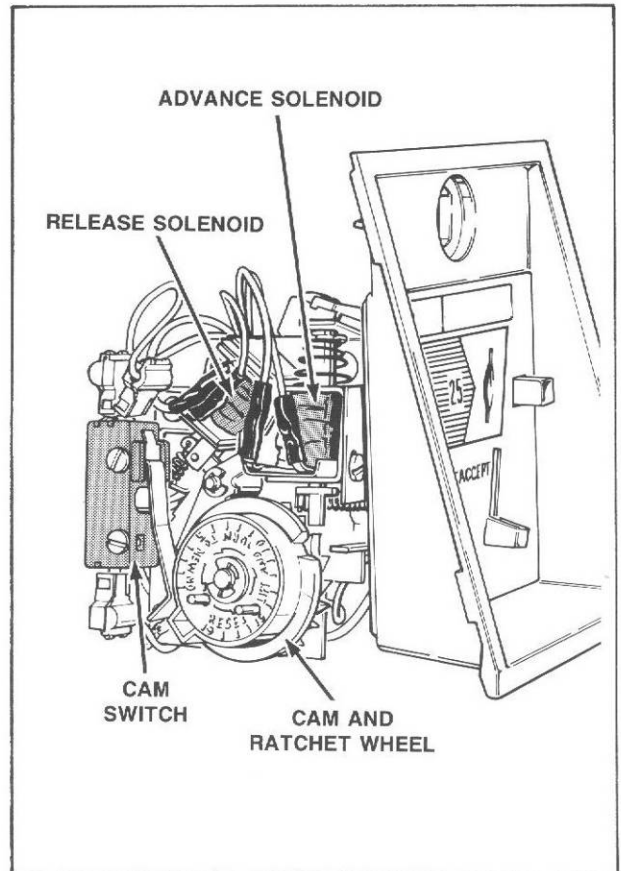

Figure 2
NOTE: Refer to *Figure 2* for accumulator coin drop assembly sequence.
1. Install coin switch, *Figure 2*, so switch "clicks" before coin has completely dropped free of actuator arm. When actuator arm returns to natural position, there should be some free travel between the "click" and reseating against bottom of coin chute.